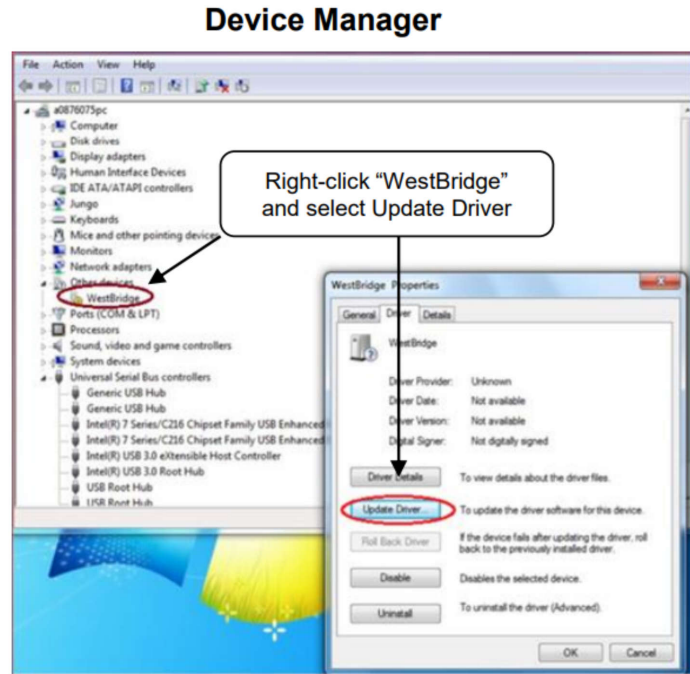
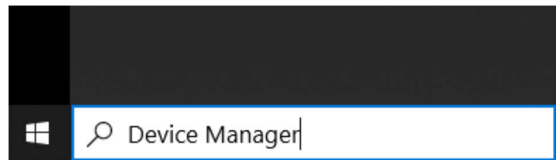

Figure 3-3. Open Device Manager
Figure 3-4. Update Driver With Device Manager
3. Open the Windows® Device Manager, as shown in Figure 3-3, and right-click on the *WestBridge* folder in the Device Manager window and select the *Update Driver* button (see Figure 3-4).